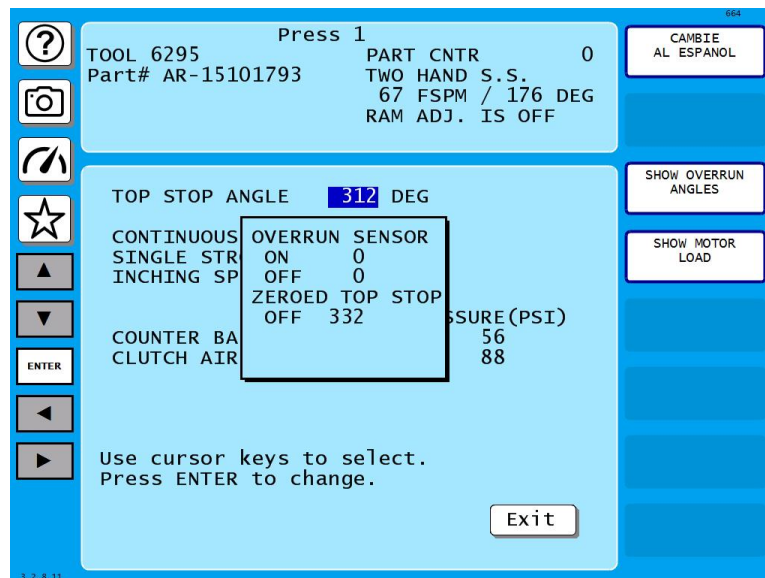

Figure 5-8. Press Control Parameters Screen Showing Overrun Angles Window
You can also view (but not adjust) the angles at which the overrun sensor turns on and off (see Figure 5-8, page 87).
2. On the Press Control Parameters screen, press SHOW OVERRUN ANGLES. A window like the one shown in Figure 5-8 displays.